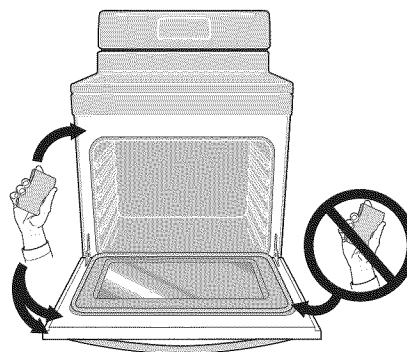

Figure 44: Do not clean the oven door gasket
12. Wipe oven cavity and bottom. Do not clean oven door gasket (See Figure 44).